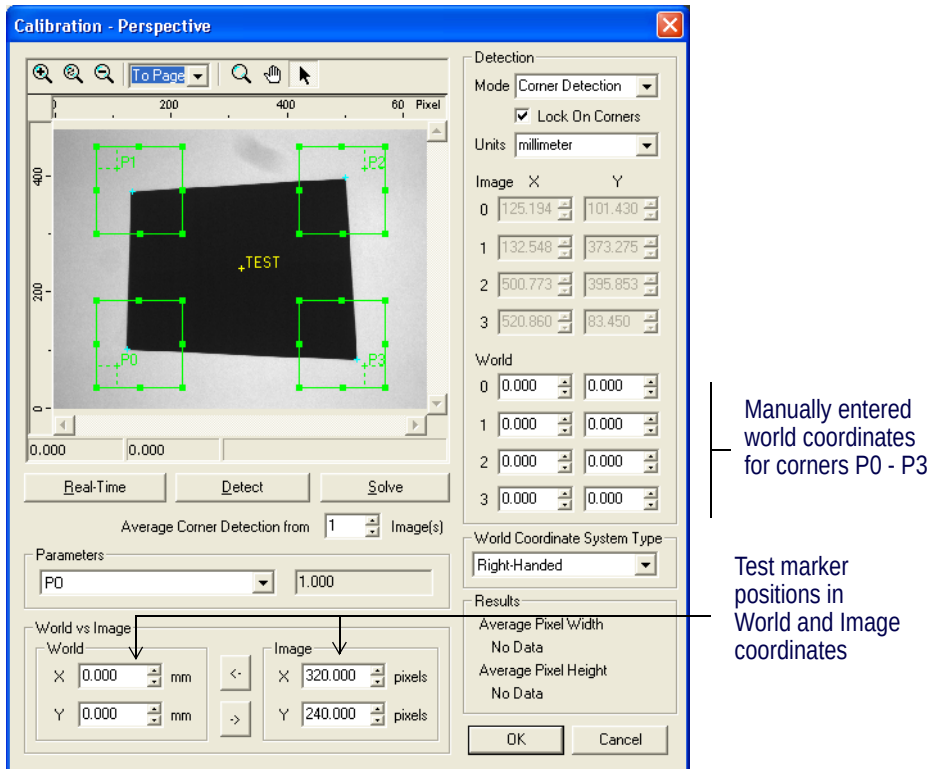
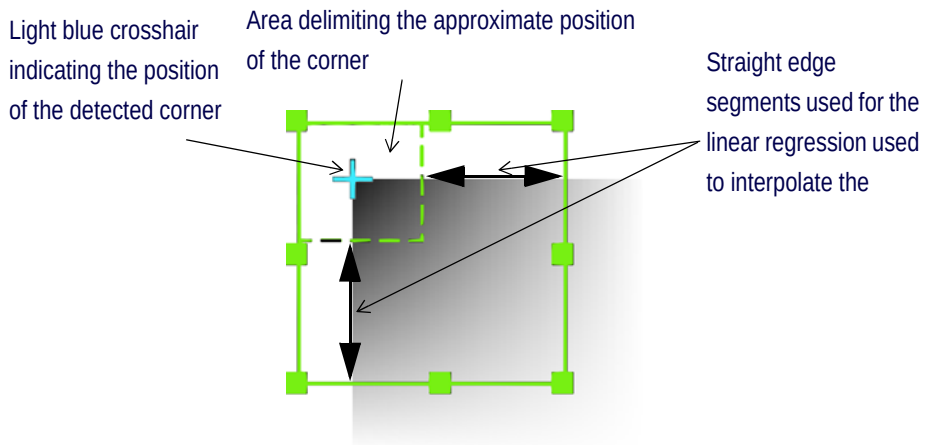

Figure 223 Perspective Calibration Dialog
Figure 224 Corner Detection Mode
2. Click **Show Calibration Dialog** to open the **Perspective Calibration**. See Figure 223.
The Corner Detection mode provides corner detection tools that can automatically locate corners on objects. These tools appear as four (4) green rectangles in the display, as shown in Figure 223. Figure 224 illustrates the positioning of the corner detection rectangles.